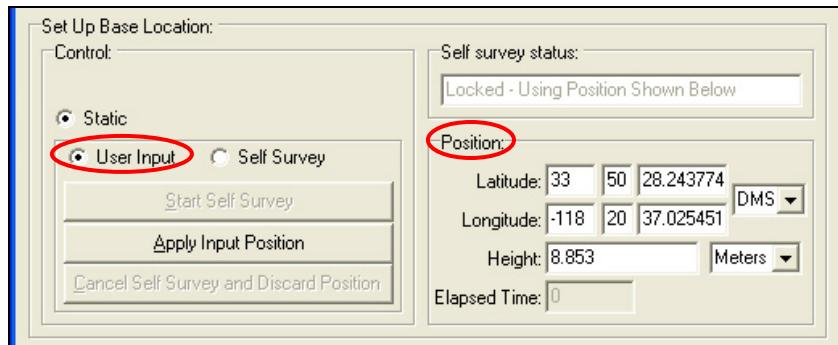

Figure 14: Base Location – User Input
- ✓ *User Input (the default)*: Manually enter the known surveyed truth position in the *Position* section of the window (see Figure 14). Click the *Apply Input Position* button to save the position in NVRAM.